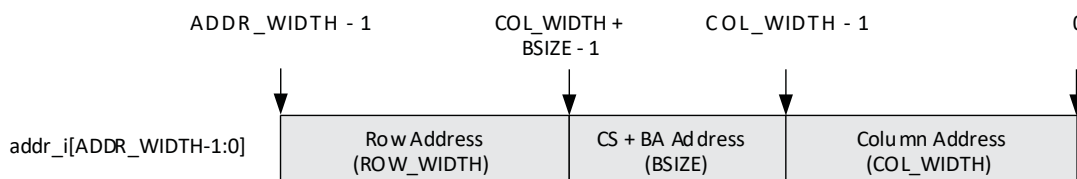

Figure 2.7. Local-to-Memory Address Mapping for Memory Access
Mapping local addresses to memory addresses is an important part of a system design when a memory controller function is implemented. You must know how the local address lines from the memory controller connect to those address lines from the memory because proper local-to-memory address mapping is crucial to meet the system requirements in applications such as a video frame buffer controller. Even for other applications, **careful address mapping is generally necessary to optimize the system performance.** In the memory side, the address (A), bank address (BA) and chip select (CS) inputs are used for addressing a memory device. You can obtain this information from a given data sheet. Figure 2.7 shows the local-to-memory address mapping of the Lattice LPDDR2 SDRAM Controller Lite IP Core.
The Lattice LPDDR2 memory controller core uses the local address signal, `addr_i`, to program these registers. The core accepts a user command, MRW, to initiate the programming of mode registers. When MRW is applied on the `cmd_i` signal, the user logic must provide the information for the targeted mode register and the programming data on the `addr_i` signal. When the target mode register is programmed, the memory controller core is also configured to support the new memory setting. Figure 2.7 and Table 2.7 show the bit mapping of local address signal, `addr_i` for the programming of memory registers.